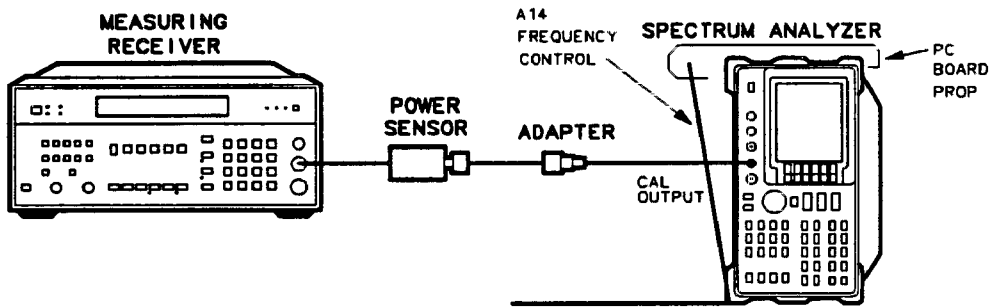

Figure 2-13. Calibrator Amplitude Adjustment Setup
1. Place the HP 8562A/B in the service position as shown in Figure 2-13. Prop the A14 Frequency Control Board Assembly in the service position.